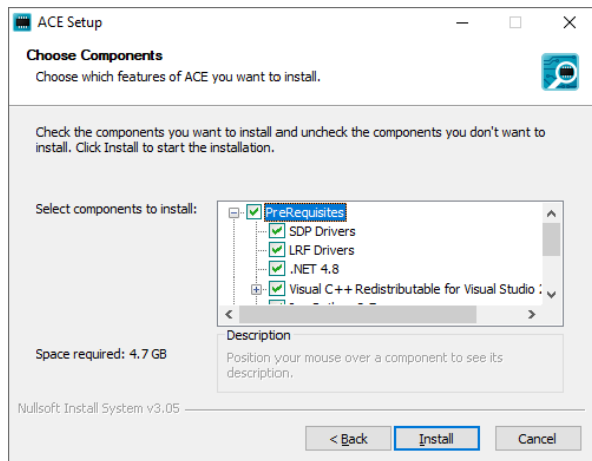

Figure 5. Drivers to Install with ACE Software
3. Install the latest version of the ACE software. During the installation, ensure that the **PreRequisites** boxes are selected for installation as well (see Figure 5).